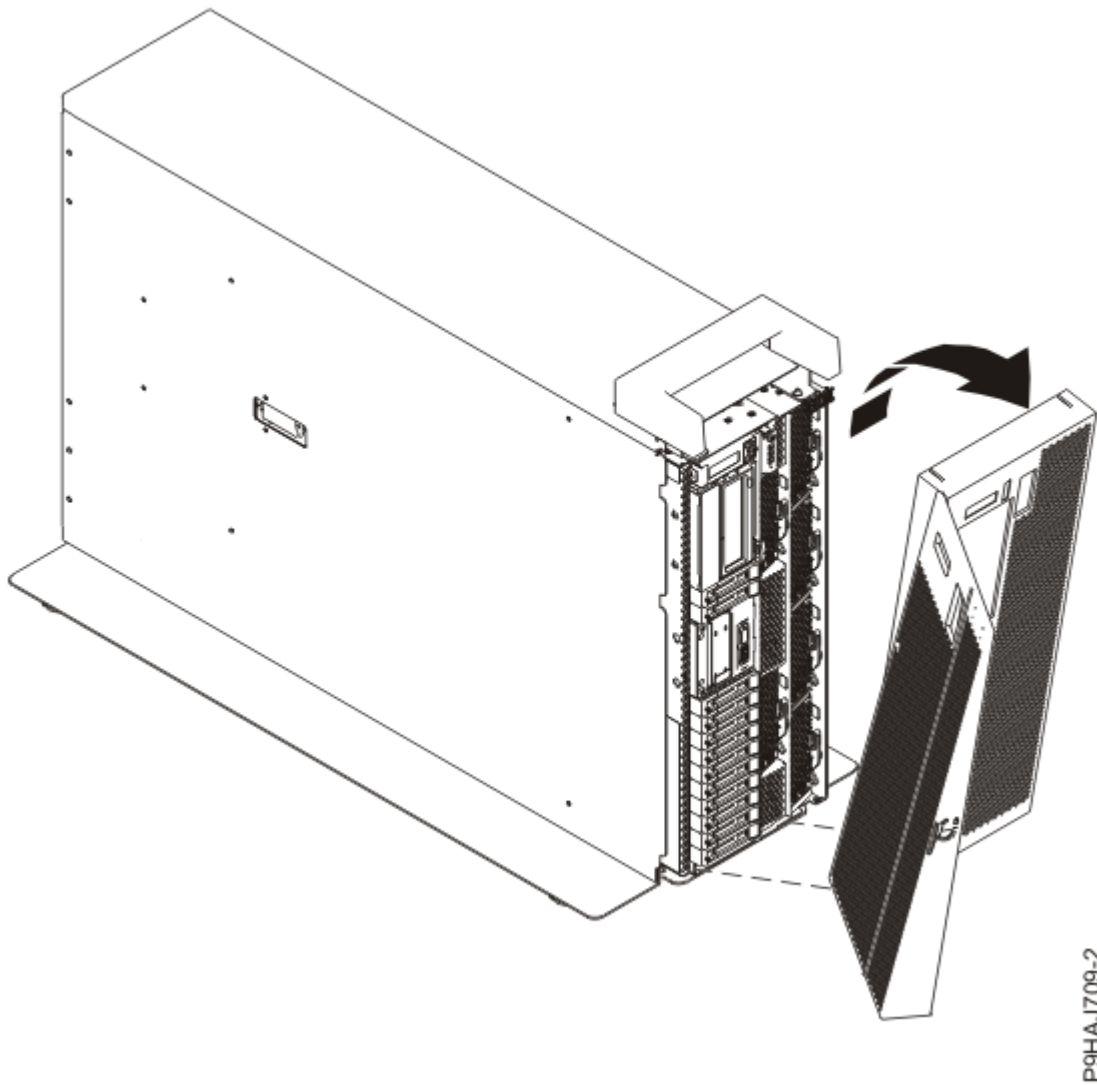

Figure 8. Removing the front cover
- d) Pull the cover away from the system as shown in Figure 8 on page 23. The cover has an indentation where you can hold onto it more easily.